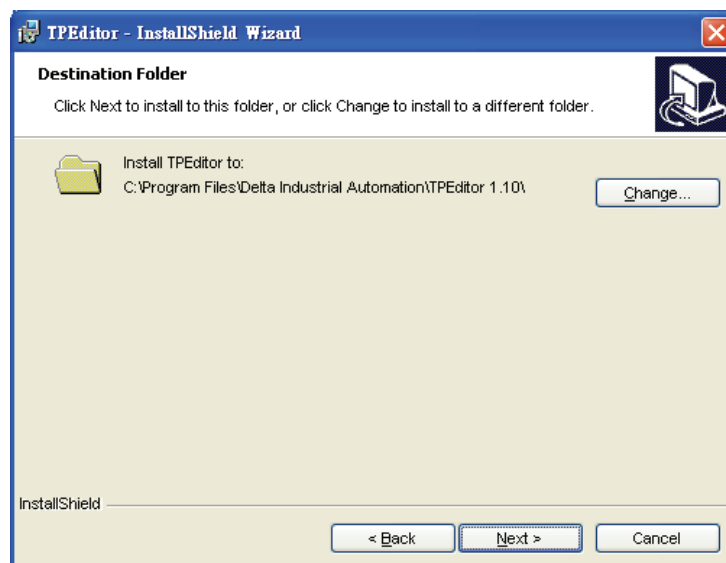

Figure 1-6
- After pressing **Next** button, the users will get the following tab to choose the destination location (Figure 1-6). To select the default directory **C:\Program Files\Delta Industrial Automation\TPEditor 1.10**, click **Next>** for the next step, and the system will install TPEditor program in the default directory. To select a directory other than the default directory, please click **Change**.